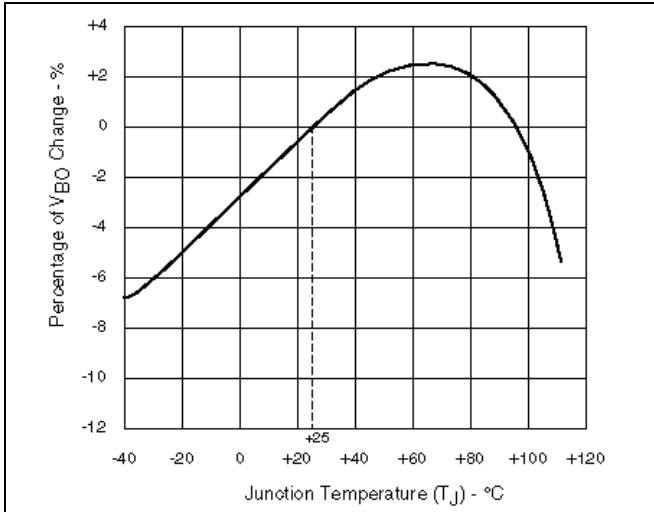

Figure 5 – Normalized  $V_{BO}$  Change vs Junction Temperature
- See Figure 5 for  $V_{BO}$  change vs junction temperature.